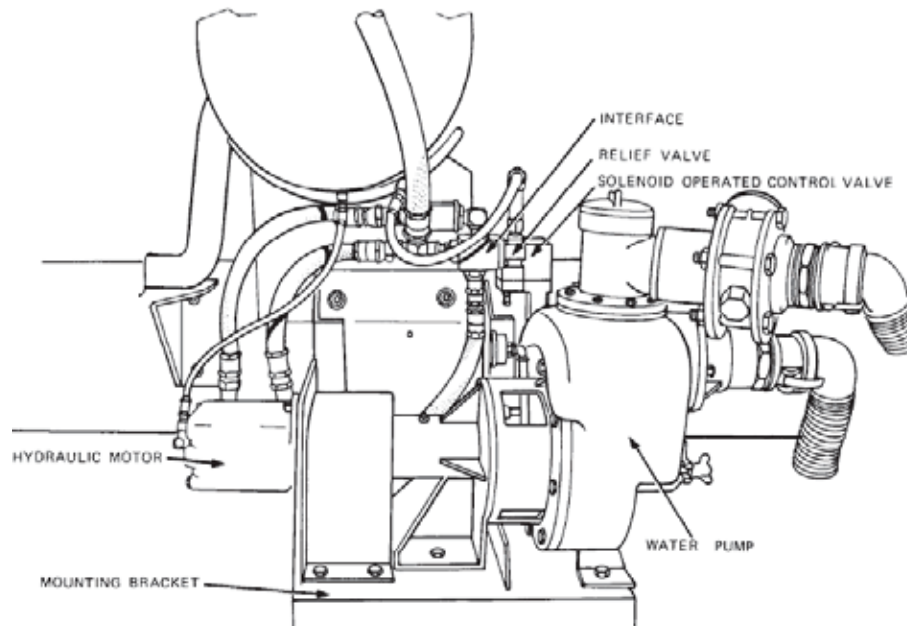

Figure 2 Hydraulic Motor and Water Pump
| Figure 2 Hydraulic Motor and Water Pump..... | 5 | Figure 13 Relief Valve and Interface Assembly – Exploded View | 12 |
9. The hydraulic motor is a Vickers 26M fixed displacement vane type motor, which provides drive for the water pump. The hydraulic motor is installed on the same mounting bracket as the water pump (Figure 2). Drive for the motor is provided by the hydraulic pump via hydraulic hoses.
13. **Solenoid Controlled Relief Valve Assembly.** The solenoid controlled relief valve assembly comprises a solenoid operated control valve, a relief valve and interface assembly. Figure 2 illustrates the location of these valves, which together control the flow of pressurized hydraulic fluid to either the hydraulic motor or to the oil reservoir, depending on the position of the PUMP START switch. Para 27 provides a general description of the operation of these valves.